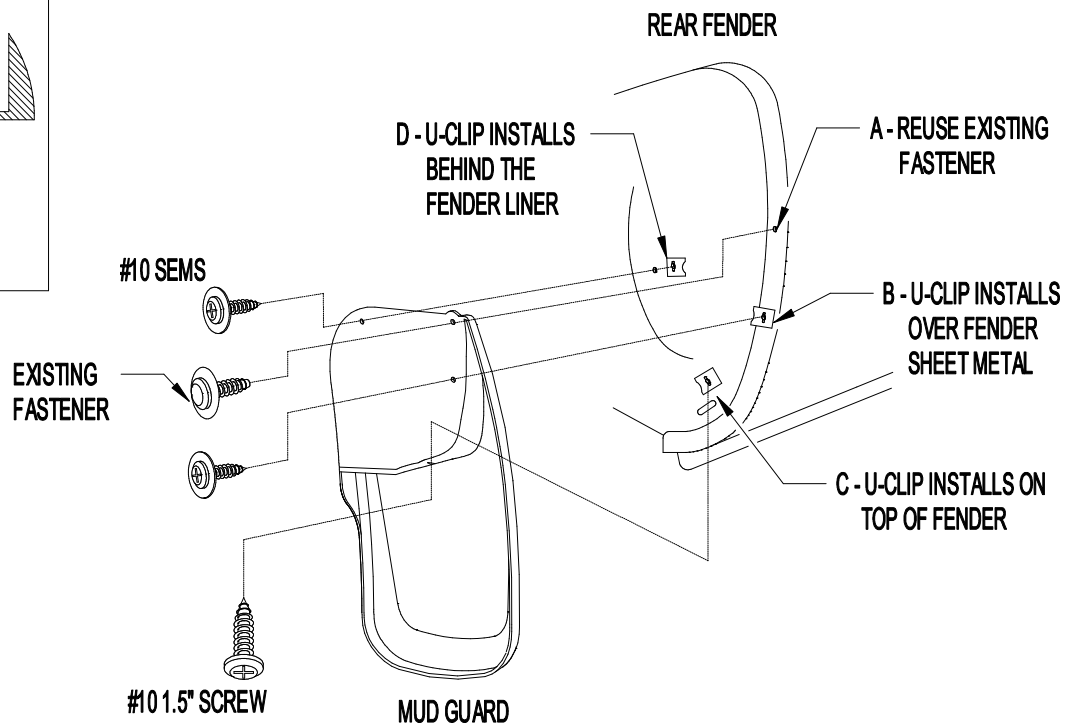

Figure 1
2. Remove the existing fastener from location A (Figure 1).
3. Install a u-clip over fender sheet metal and align with existing hole at location B (Figure 1).